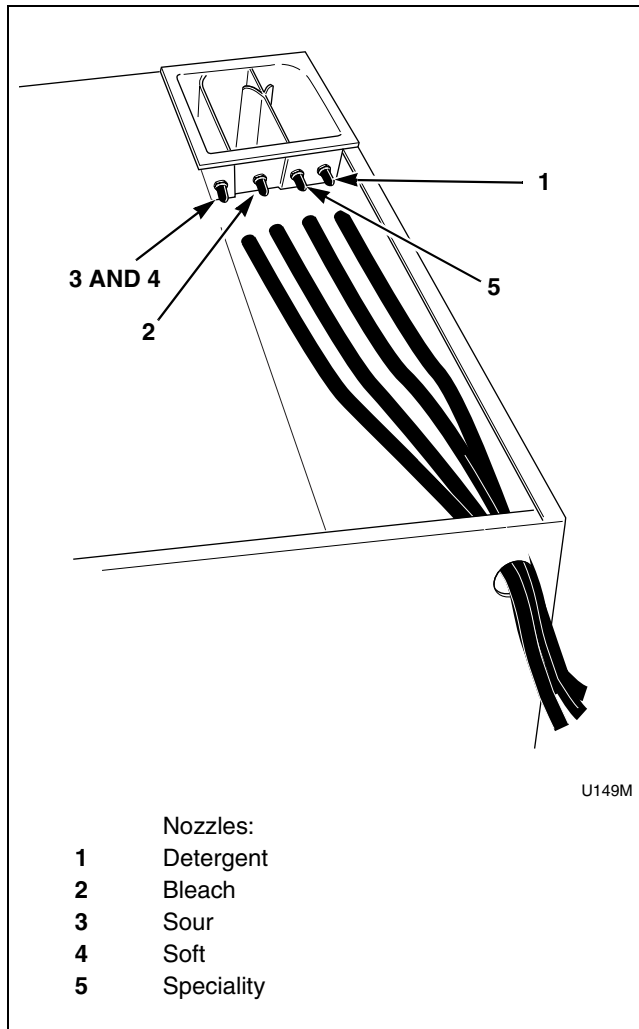

Figure 32
3. Locate the 4 capped nozzles on the rear of the liquid supply dispenser and remove caps. Refer to *Figure 32*.